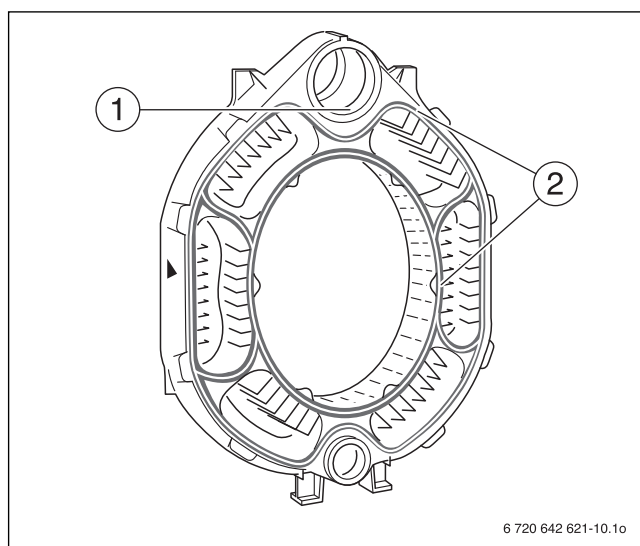

Fig. 14 Preparing the centre section
- ▶ Evenly coat the hub sealing faces with sealant (Fig. 14, [1]).
- ▶ Coat the packing springs with adhesive (primer) (Fig. 14, [2]).